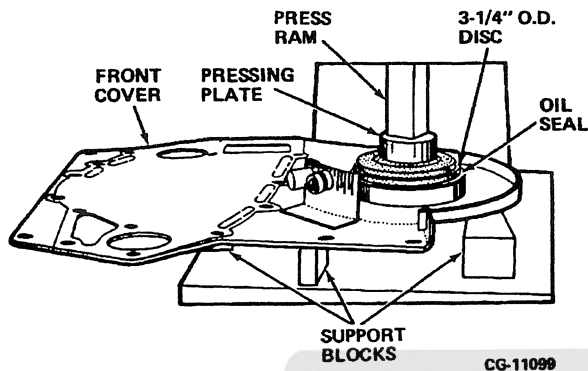

Figure 6.8. Front Cover Oil Seal Removal with Cover Removed Using 3-1/4" O.D. Disc
5. Press front oil seal from front cover using a 3-1/4" O.D. disc, Figure 6.8.